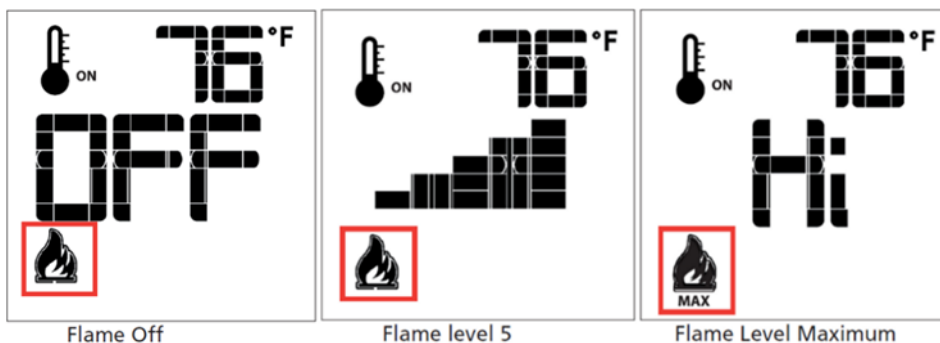

FIGURE 43
The system has six (6) flame levels. See (**Figure 43**) for an example. With the system on, and the flame level at the maximum in the appliance, pressing the Down Arrow Key once will reduce the flame height by one step until the flame is turned off. The Up-Arrow Key will increase the flame height each time it is pressed. If the Up Arrow Key is pressed while the system is on, but the flame is off, the flame will come on in the high position (**Figure 43**). A single "beep" will confirm reception of the command.